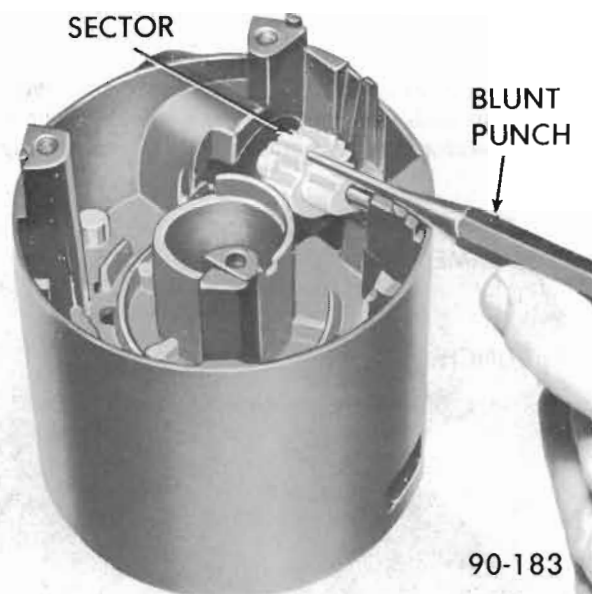

Figure 90-93 Removing Sector
20. Remove the sector through the lock cylinder hole by pushing firmly on the block tooth of the sector with a blunt punch. See Figure 90-93.